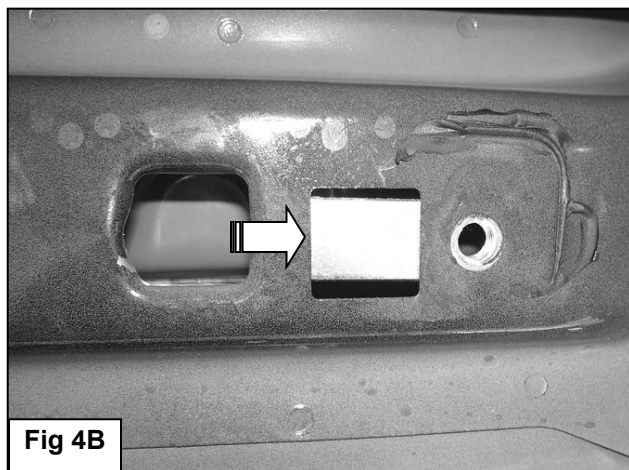

Fig 4B
- a. Models with "open floor" requiring 10mm Nut Plate, attach each bracket to the Nut Plate with (1) 10mm x 35mm Hex Bolt, (1) 10mm Lock Washer and (1) 10mm Flat Washer, **(Figures 4B, 6 & 7)**. Repeat for any/all mounting locations.